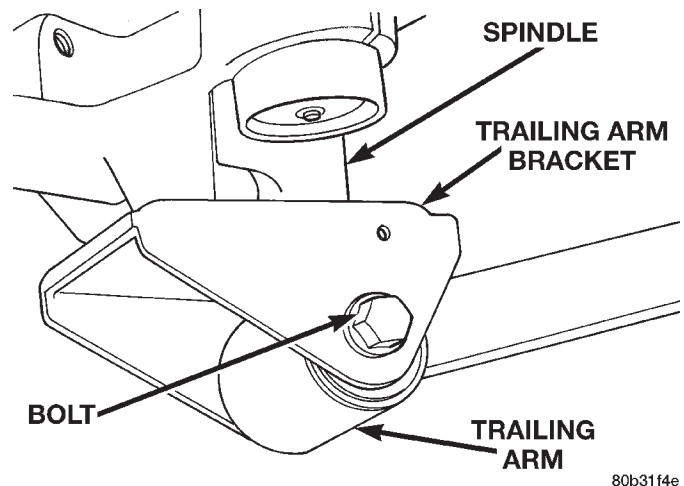

**Fig. 27 Trailing Arm To Bracket Bolt**
(1) Raise vehicle on jackstands or centered on a frame contact type hoist. See Hoisting in the Lubrication and Maintenance section of this manual, for the required lifting procedure to be used for this vehicle.
(2) Remove the rear wheel and tire assembly from the vehicle.
(3) Remove the bolt attaching the trailing arm to the bracket on the bottom of the spindle (Fig. 27).
(3) Install bolt attaching trailing arm to trailing arm bracket on bottom of spindle (Fig. 27). Do not fully tighten attaching bolt at this time.
(4) Install wheel and tire assembly on vehicle. Tighten the wheel mounting stud nuts in proper sequence until all nuts are torqued to half specification. Then repeat the tightening sequence to the full specified torque of 129 N·m (95 ft. lbs.).
(5) Lower vehicle to the ground.
(6) Tighten the trailing arm to spindle bracket attaching bolt to a torque of 100 N·m (75 ft. lbs.).
(7) Check and reset rear wheel TOE to specifications if required.